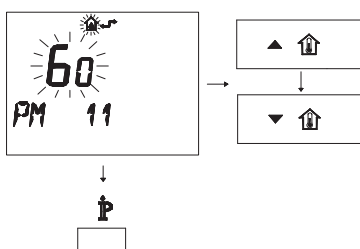

Fig. 8.21
- To modify the programmed SET, act on buttons **▲** and **⬆** or **▼** and **⬆** and wait for the programmed number to flash (Fig. 8.21). Each step increased or decreased corresponds to 1 second.